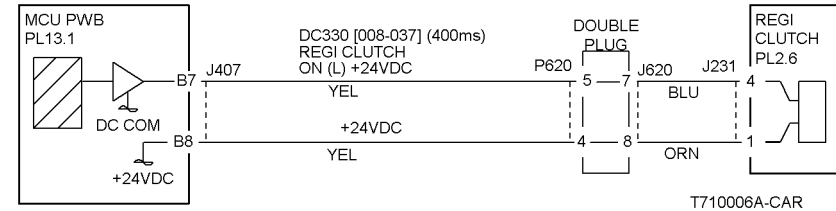
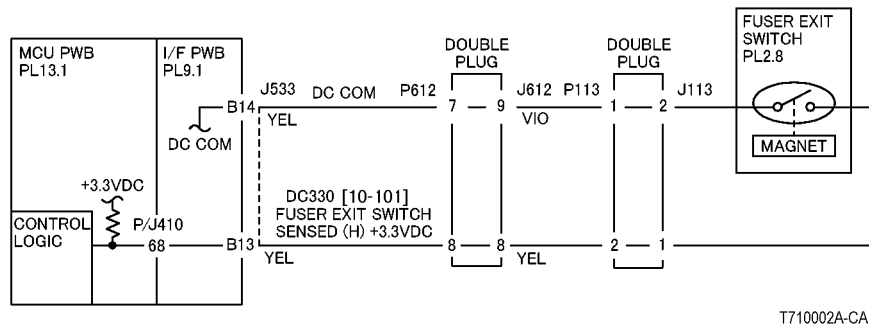

Figure 2 8-184 RAP Circuit Diagram - Registration Clutch
Figure 1 8-184 RAP Circuit Diagram - Fuser Exit Switch
- Ensure that the connectors shown in the circuit diagrams (Figure 1, Figure 2) are securely connected and that the wires are not damaged.